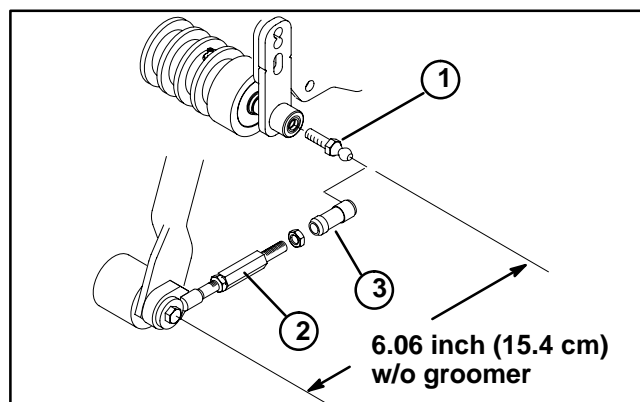

Figure 37
5. Slide sleeve back on each ball joint receiver. Remove receiver from each unit's ball studs (Fig. 37).
6. For the front cutting units, slide cutting unit lift roller off the lift arm while sliding the cutting unit from the pull frame (Fig. 37).
2. Make sure ball studs are threaded into each end of the cutting unit front roller (Fig. 37).
5. Slide sleeve back on each ball joint receiver and hook onto cutting unit ball studs (Fig. 37).